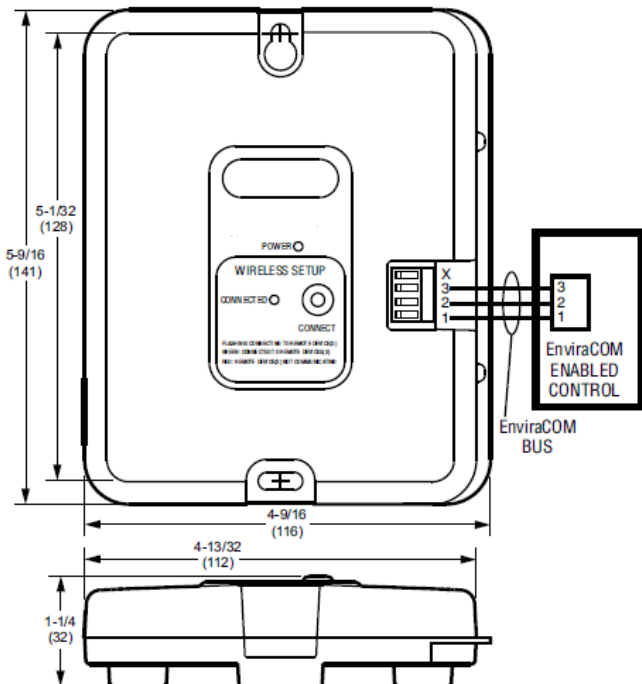

Figure 1, Wireless Receiver Module Wiring Diagram
4. Wire the 1, 2, and 3 terminals on the Wireless Receiver Module to the 1, 2, and 3 terminals on the EnviraCOM™, on the Concert Control. See Figure 1.